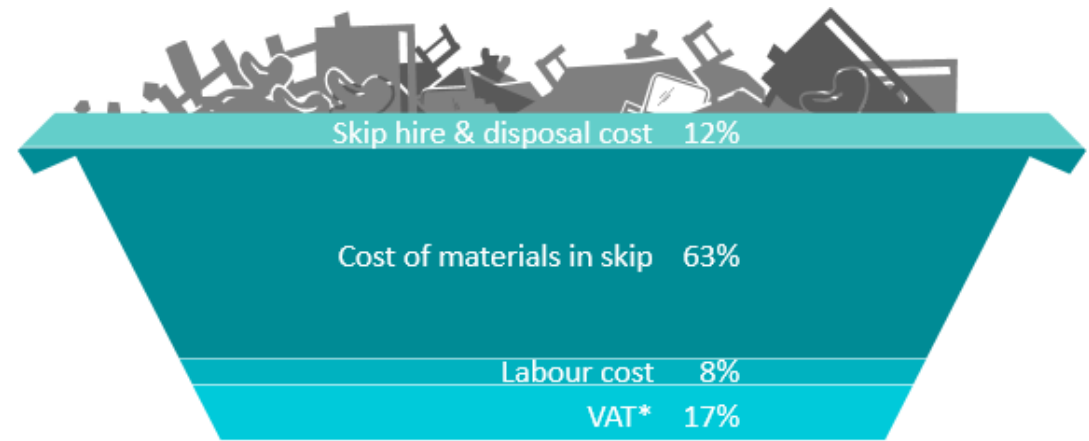

Figure 1: Hidden costs of waste: 8yd skip can equate to £1700. *20% of pre-VAT total
- Reduce the costs of materials and waste, highlighted in Figure 1, through a whole life costing approach;